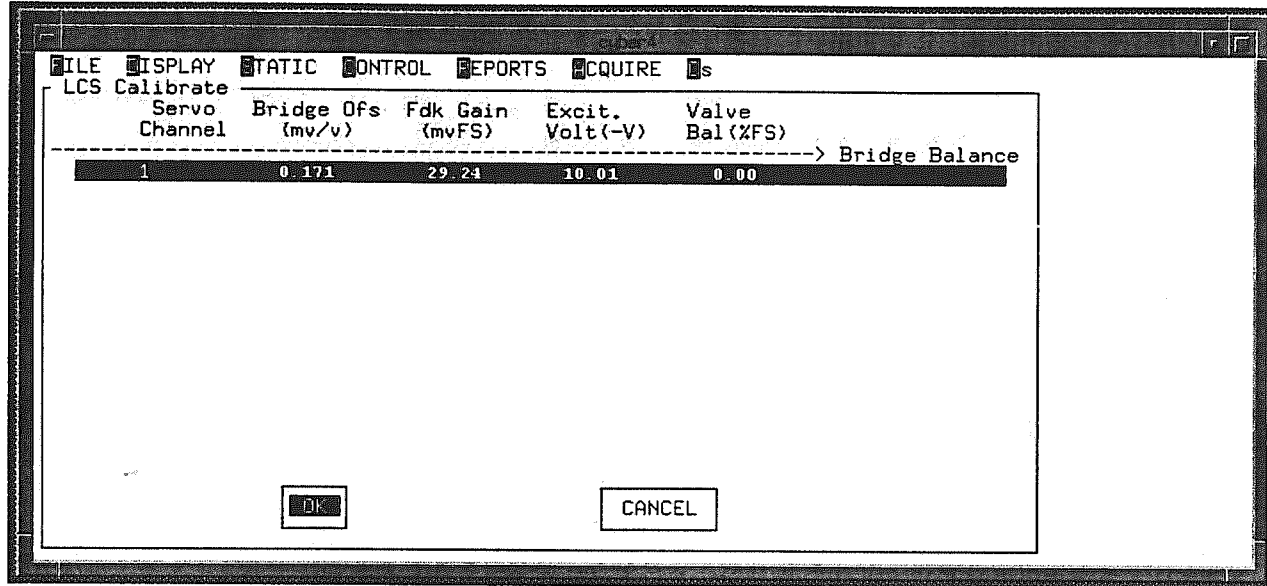

Figure 7-2 LCS Calibration Report Screen
- Step 6:** After the system has completed this function, the LCS Calibration report shown in Figure 7-2 is displayed. The column labeled Bridge Ofs (mv/v) indicates how much bridge offset was necessary to balance each of the control channels which were calibrated.